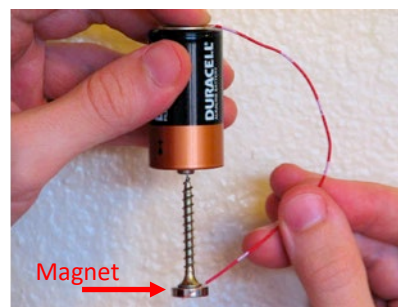

Figure 7
- For some easy fun you can build a homopolar motor out of a battery, a short single wire, screw and magnet. Assemble these parts as shown in **Figure 7**.